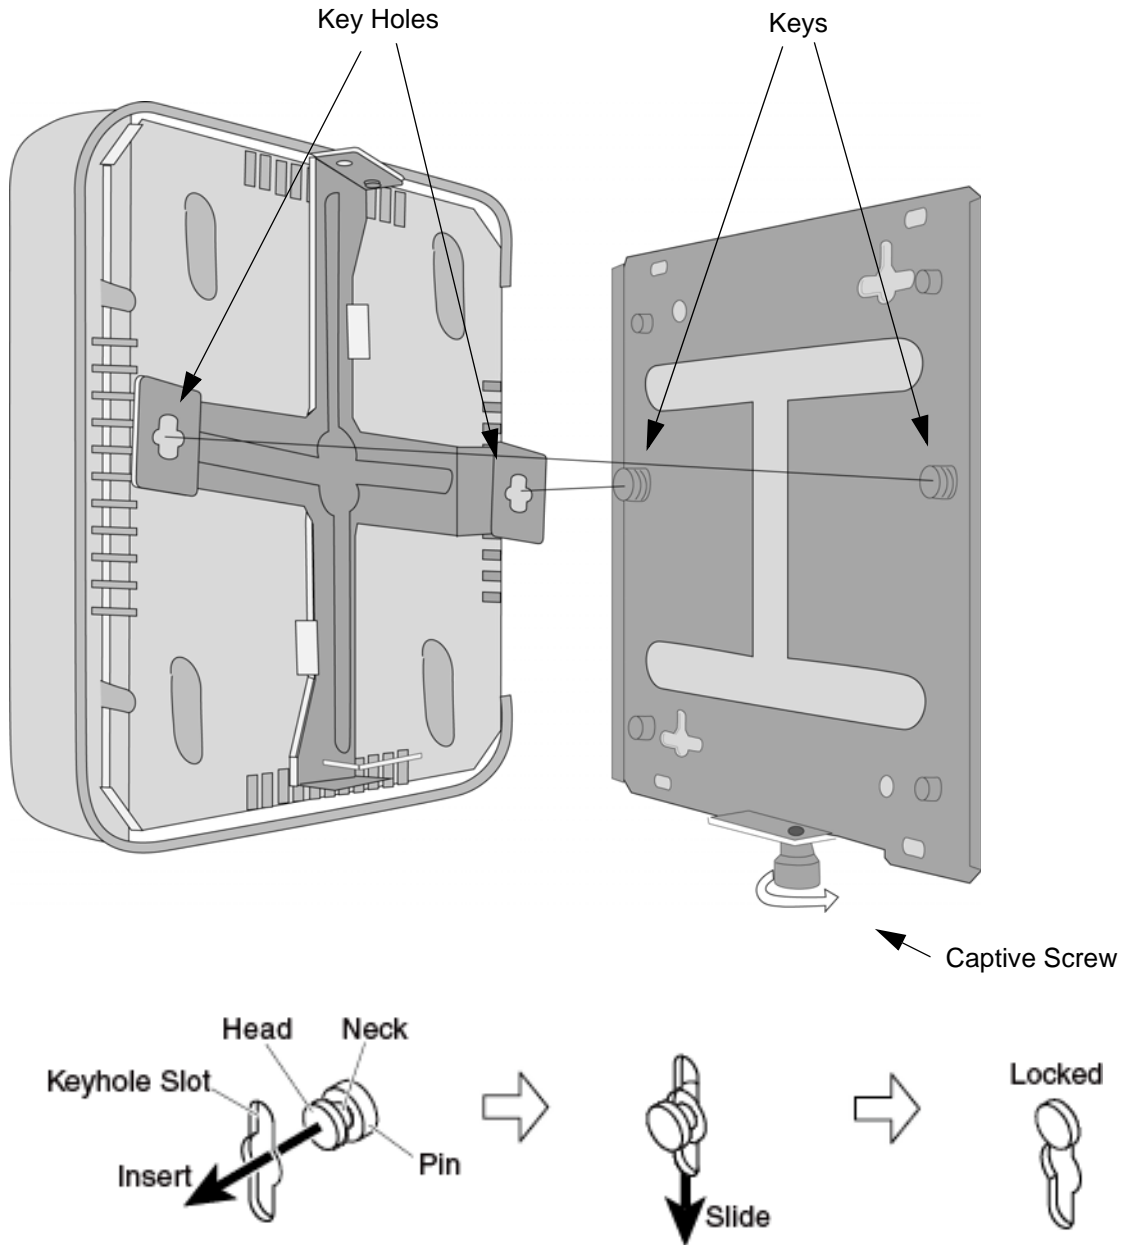

Figure 13. Attaching the Access Point to the Base Plate
2. Insert the two pins on the base plate into the keyhole slots on the mounting bracket. Refer to Figure 13 on page 42.
3. Slide the access point downward to lock the necks of the pins on the base plate in the slots on the mounting bracket. Refer to Figure 13.